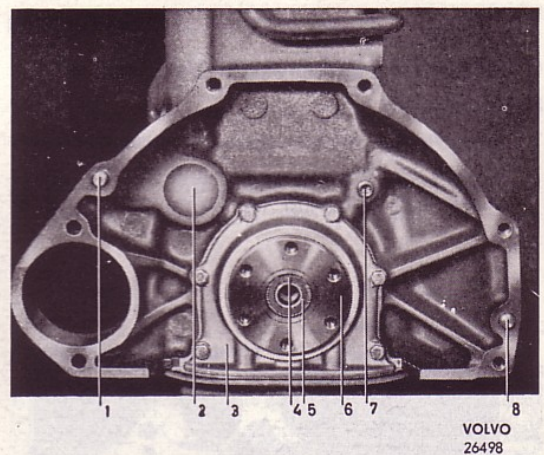

Fig. 19. Rear end of engine
The pilot bearing (5, Fig. 19) should be lubricated before fitting with heat-resistant ball bearing grease. The bearing and protecting washer are held in position by a circlip (4).